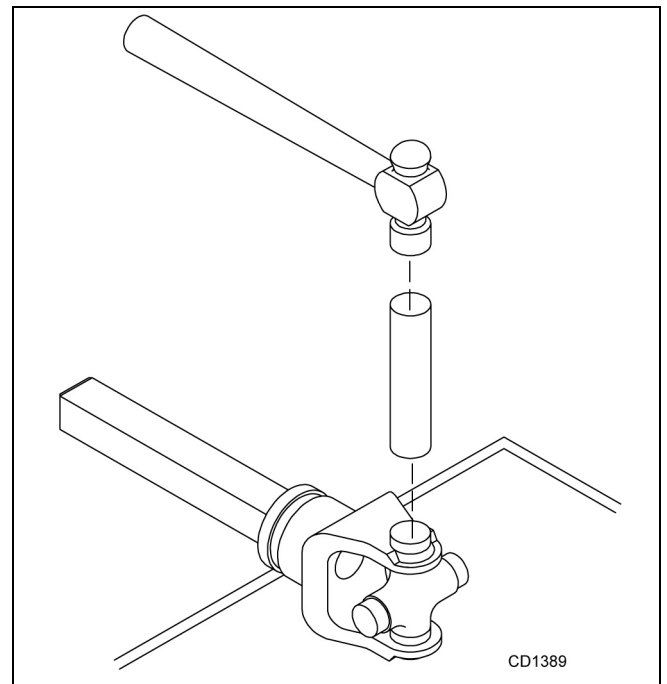

Figure 22. Install Cups
3. Seat cups by placing a drift or socket (slightly smaller than the cup) on cup and rap with a hammer. See Figure 22. Install snap ring and repeat on opposite cup.